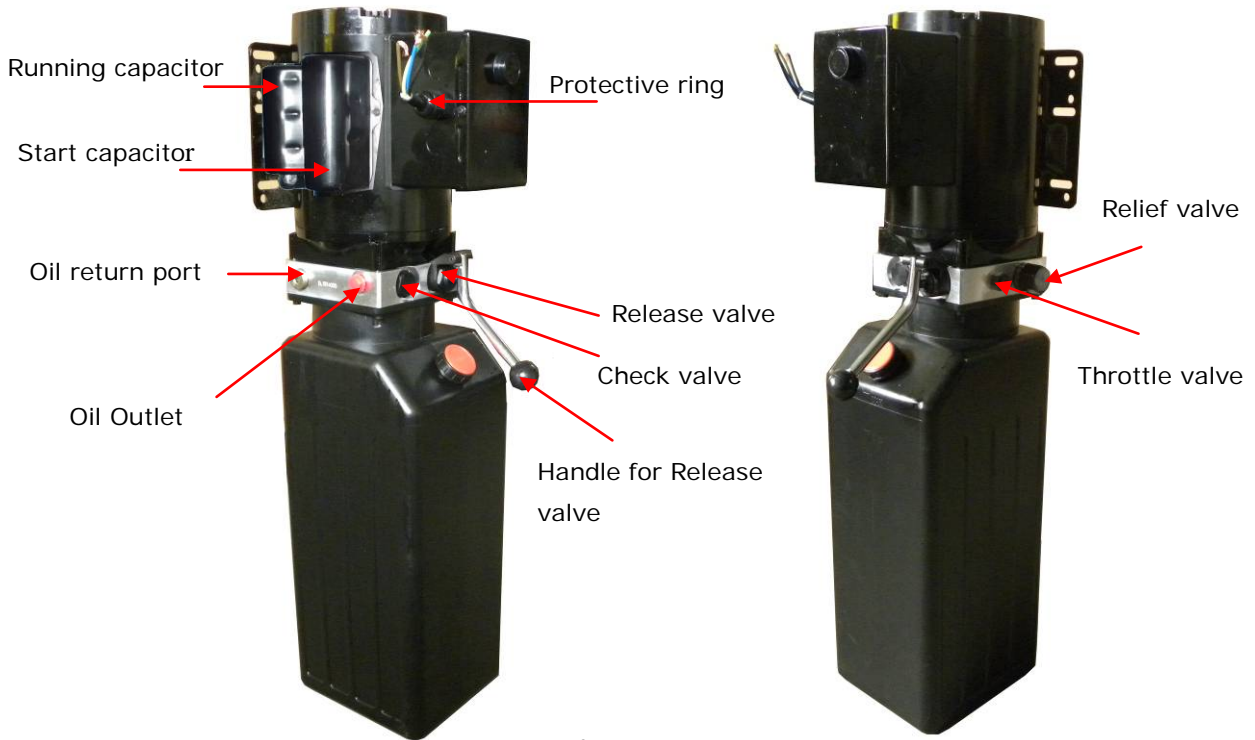

Fig. 38
b. PEAK manual power unit, 220V/50HZ, Single phase (See Fig. 38)